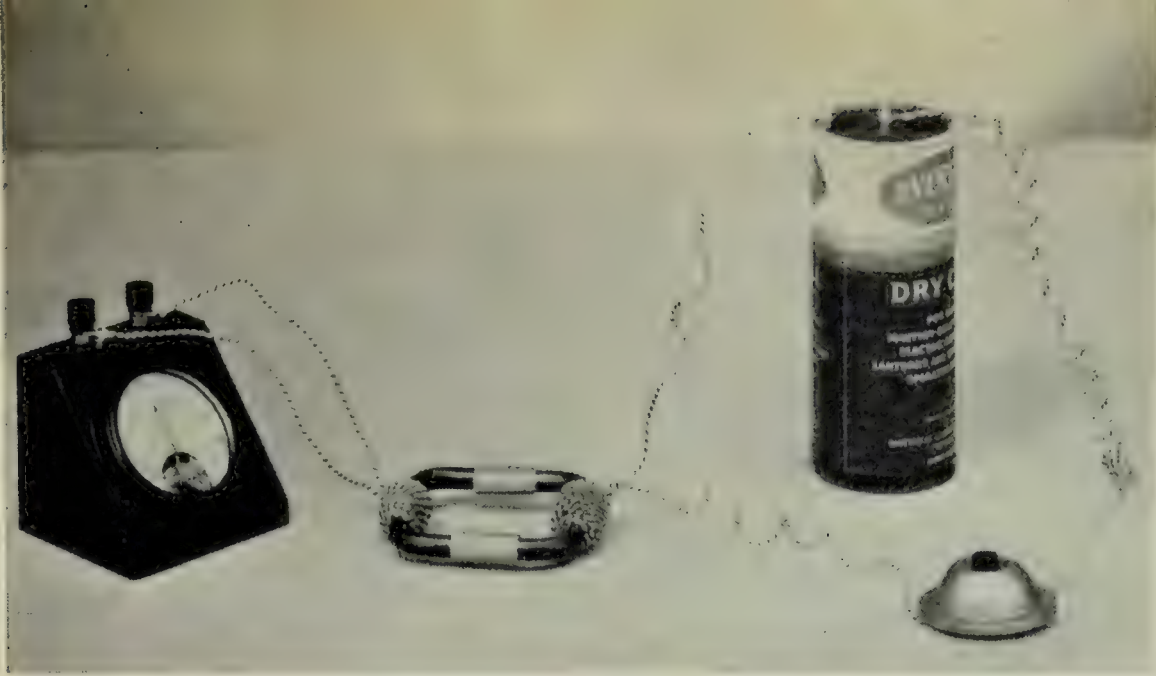

FIG. 419. Apparatus for Experiment 92
*Experiment 92. HOW IS A TRANSFORMER MADE?* Obtain a soft iron rod and bend it into a circle about three or four inches in diameter. (A core of soft iron wires may be used equally well.) Wrap two coils of about fifty turns each of wire around the core (Figure 419). Connect one coil in series with a switch and two or three dry cells. Connect the other coil to a galvanometer. Now close the switch. What happens? Now open the switch. What happens? What change takes place in the direction of the current as the switch is opened and closed?